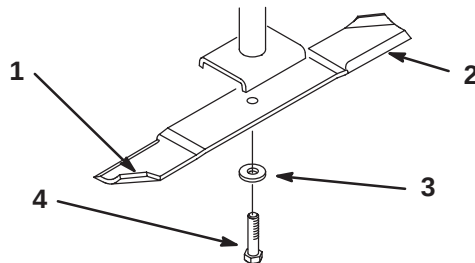
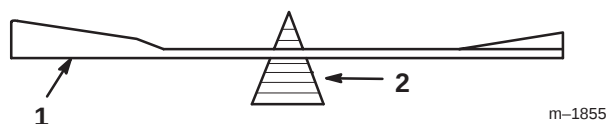

Figure 25
Figure 27
Hold the blade end using a rag or thickly-padded glove. Remove the blade bolt, spring disk, and blade from the spindle shaft (Fig. 25).
- Check the balance of the blade by putting it on a blade balancer (Fig. 27). If the blade stays in a horizontal position, the blade is balanced and can be used. If the blade is not balanced, file some metal off of the end of the sail area only (Fig. 25). Repeat this procedure until the blade is balanced.
1. Install the blade onto the spindle shaft (Fig. 25).
2. Install the flat washer, lock washer, and blade bolt (Fig. 25). Torque the blade bolt to 85–110 ft–lb (115–150 N·m).